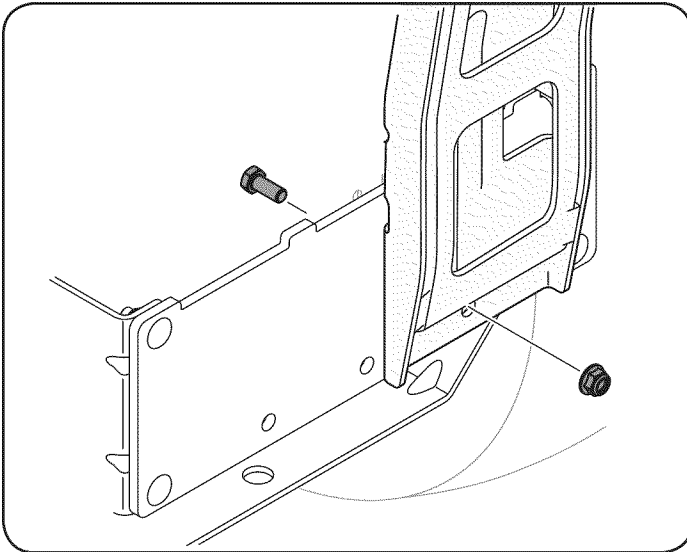

Figure 8
6. Secure the bag support assembly to the mounting assembly using a hex bolt (710-3008) and flange lock nut (712-04063) packed with the upright mounting bracket. The support assembly mounts in the right side mounting hole as seen in Figure 8.